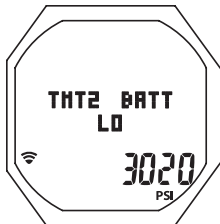

Fig. 6 - TMT BATT STATUS
- The graphics TMTx BATT and LO appear solid on the Battery Status screen (Fig. 6).